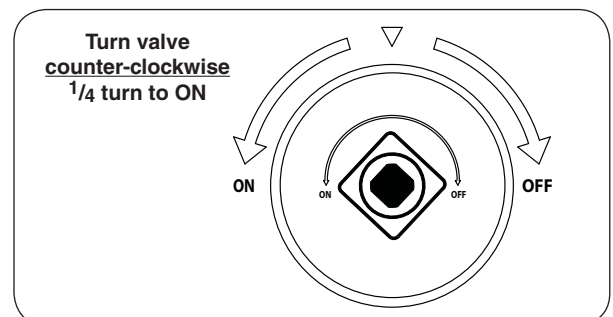

Fig. 27-2 ON/OFF key valve detail
3. Turn the ON/OFF key valve counter-clockwise a $\frac{1}{4}$ turn to the **ON** position (Fig. 27-2).